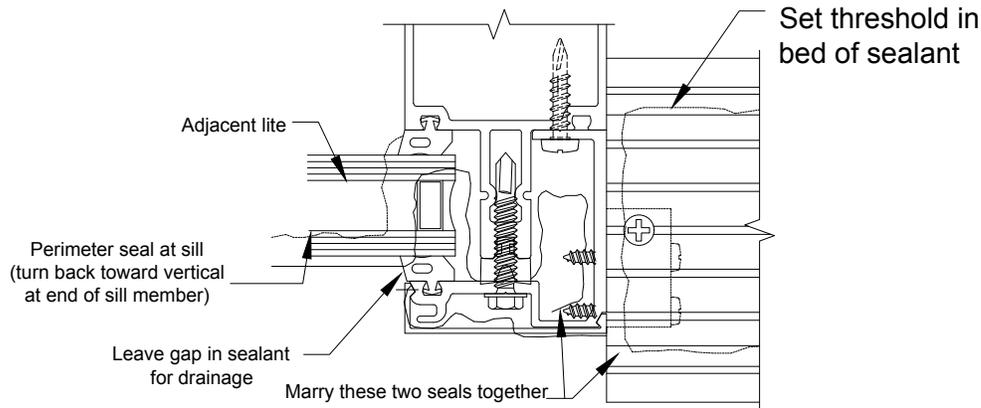

Figure 43
- C.3.4 Apply continuous seal to horizontal tongue before installing horizontal pressure plate. Seal ends of horizontal pressure plate to vertical pressure plates. **See FIGURE 43, page 40.**